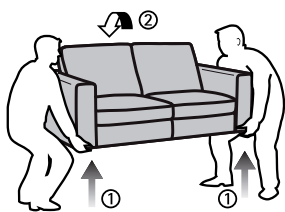
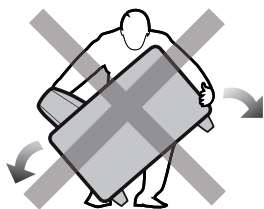

Fig. 4
Fig. 5
- The sofa must be lifted (1) and turned (2) to return it to an upright position, but avoid using the feet as a lever to prevent breaking them **Fig. 4 Fig. 5**